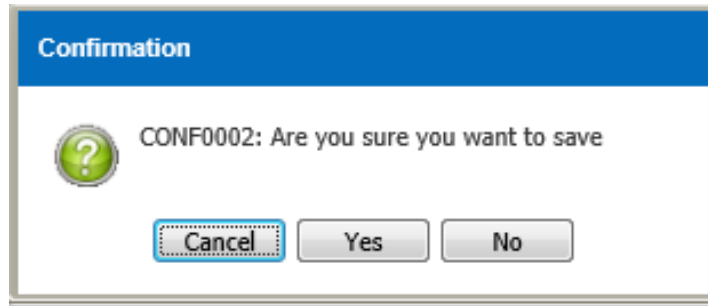

Figure 3.1.1-3 Confirmation Message
- Confirmation message as shown in Figure 3.1.1-3 will be displayed after user save the record
- Record will save when user click on the  button as shown in Figure 3.1.1-4